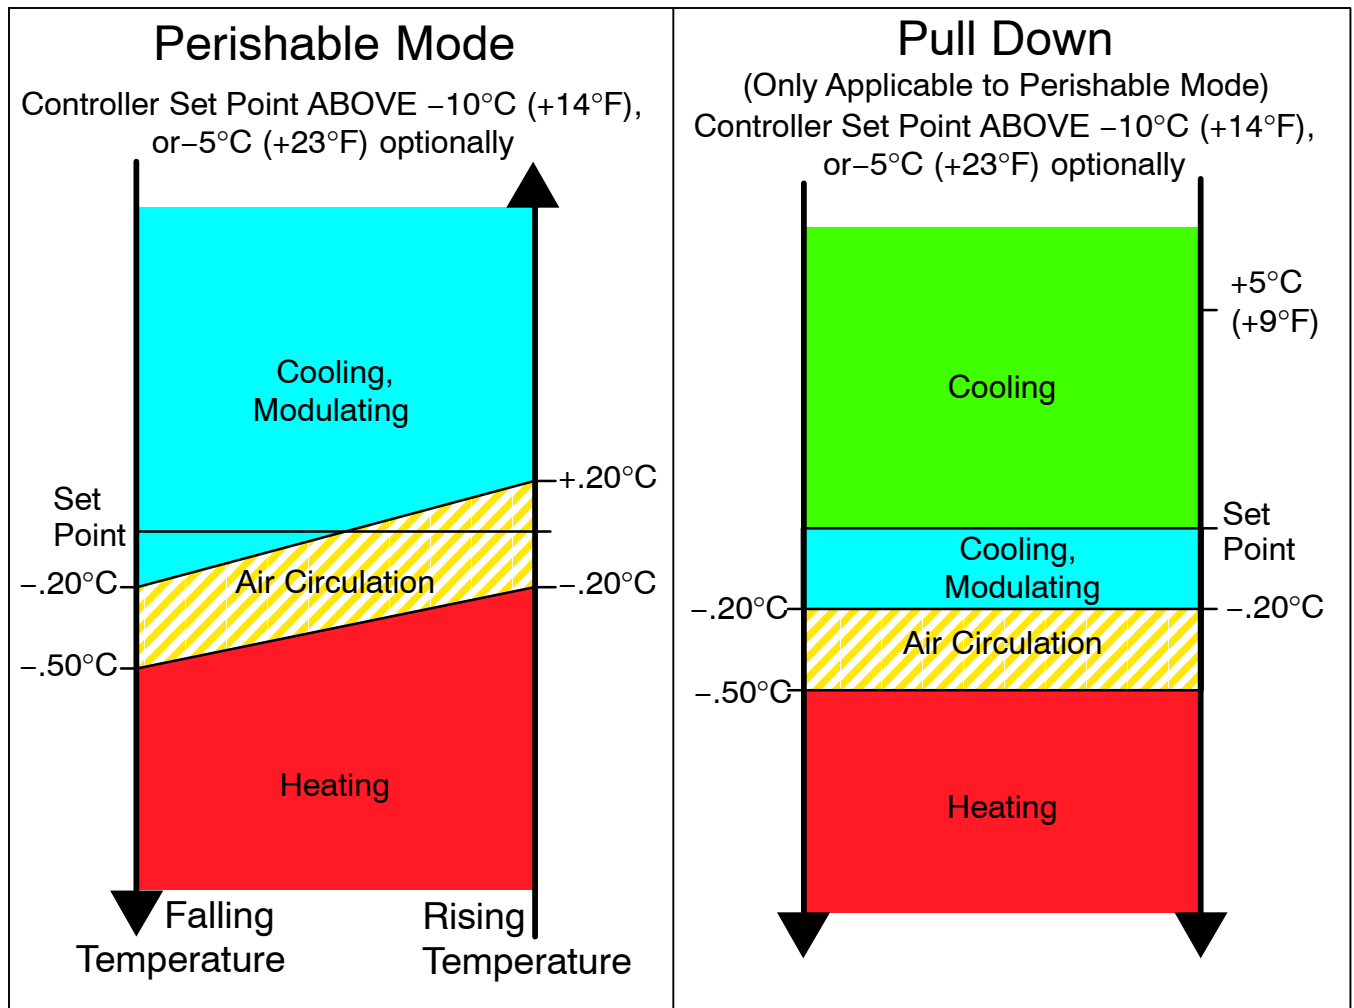
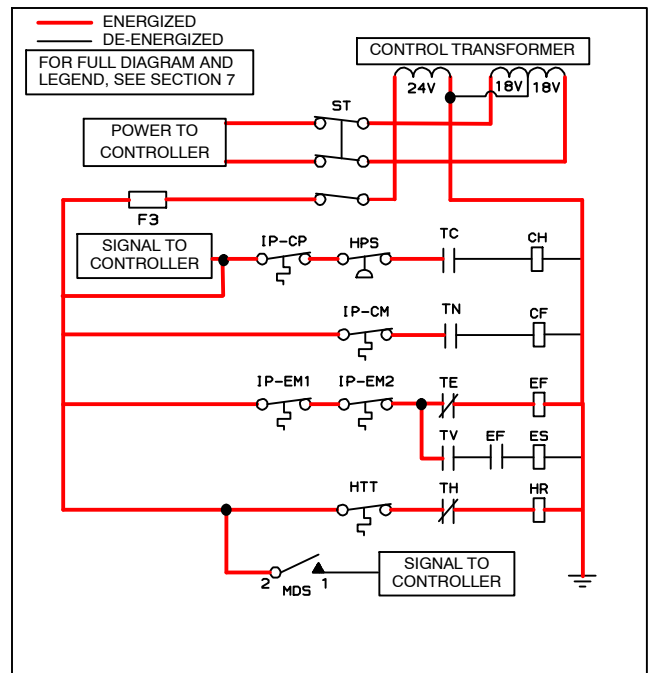
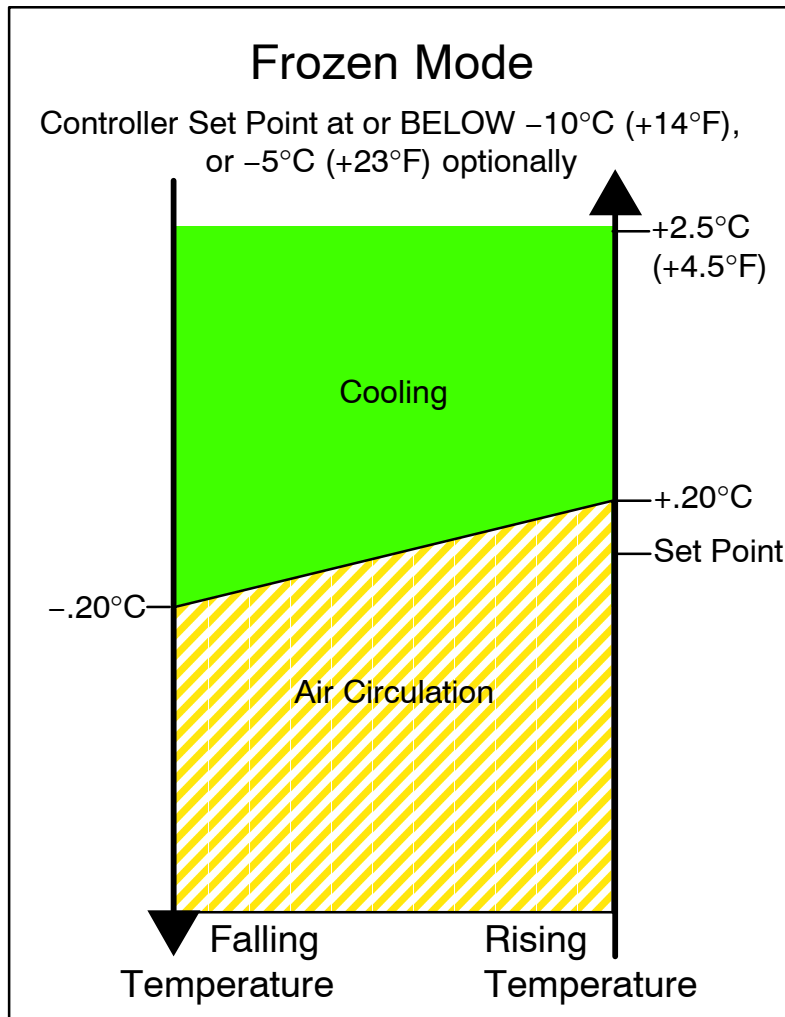

Figure 3-5 Controller Operation – Perishable Mode
Figure 3-7 Perishable Mode Heating
Figure 3-8 Controller Operation – Frozen Mode
General operation sequences for cooling, heating, and defrost are provided in the following subparagraphs. Schematic representation of controller actions are provided in Figure 3-5 & Figure 3-8.
- a. If the supply air temperature decreases 0.5°C (0.9°F) below set point, the system enters the heating mode (see Figure 3-5). The controller closes contacts TH (see Figure 3-7) to allow power flow through the heat termination thermostat (HTT) to energize the heaters (HR). The orange HEAT light is also illuminated. The evaporator fans continue to run to circulate air throughout the container.